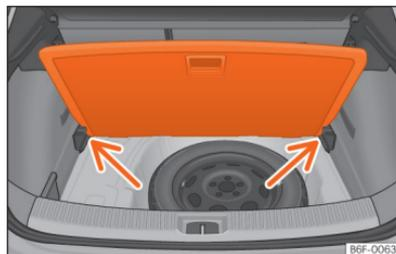

Fig. 146 Variable boot floor: tilted position.
- Rest the floor on its housings » Fig. 146 (arrows).